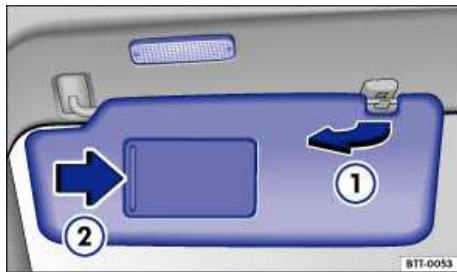

Fig. 101 Sun visor.
- Lift it out of the retaining clip ⇒ fig. 101 \(1\) and swivel it over toward the door.